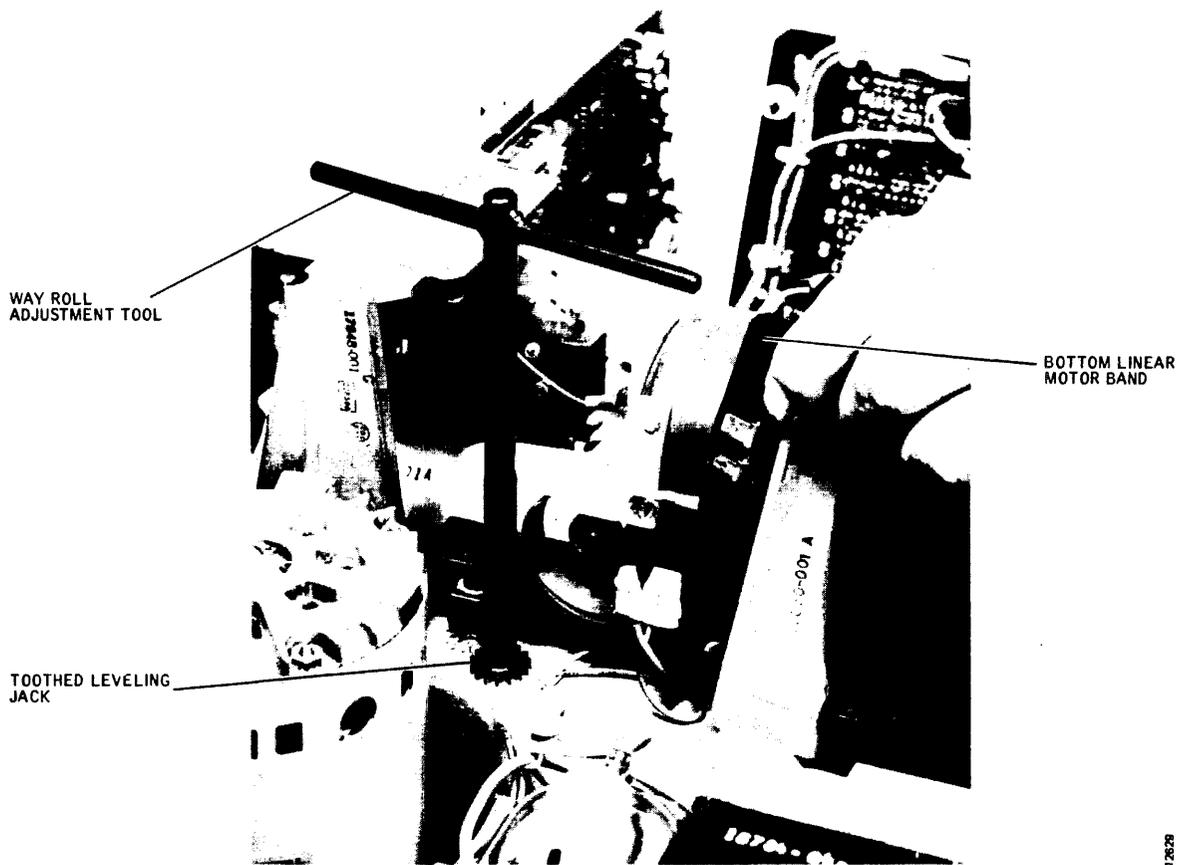

Figure 3-53. Way Roll Adjustment Tool in Place with Linear Motor Band Held Away
11. Remove the bottom linear motor band (two screws) (see Figure 3-52) and using the Way Roll Adjustment Tool, part no. 13484-001, fitted to the leveling jack gear (see Figure 3-53), adjust the leveling jack until both leveling indicators read reference zero, ± 0.0002 .